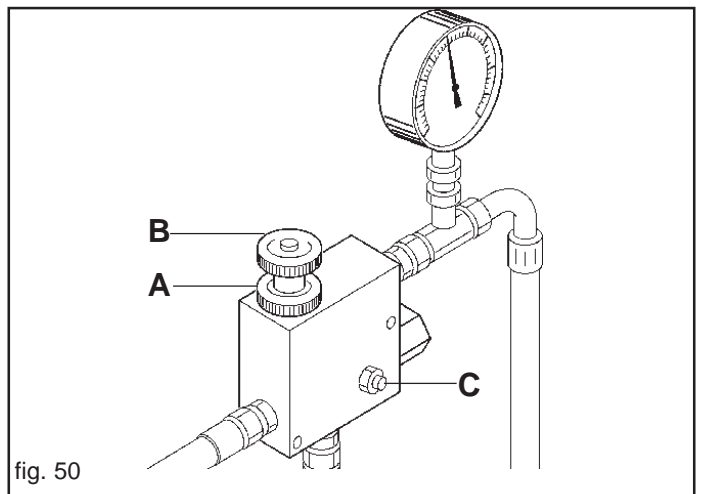

fig. 50
If you wish to increase the number of revolutions of the fan for distributing heavier seeds, carefully proceed as follows (Fig. 50):
- loosen the handwheel (A Fig. 50);
- rotate the handwheel (B Fig. 50) clockwise or anticlockwise to reduce or increase pressure and adjust the number of revolutions of the blower accordingly.
It is strictly forbidden to touch act on the dowel (C, Fig. 50) for any reason, as this would unset the system and could lead to the motor or pump breaking.